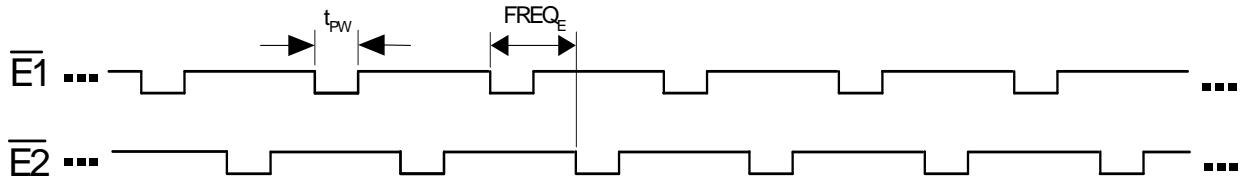

Figure 4. Alternate Pulse Format on E1 and E2
Setting bits *MECH* = 1 and *STEP* = 0 in the *Control Register* and *ALT* = 1 in the *Configuration Register* configures the E1 and E2 pins for alternating pulse format output (see Figure 4). Each pin produces alternating active-low pulses with a pulse duration (t_{PW}) defined by the *Pulse Width Register* (PW):